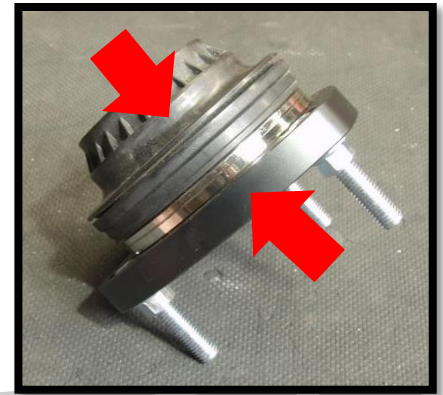

Figure 3a
- a) Place the strut bearing onto the CorkSport Camber plate making sure it is fully seated (as shown in **Figure 3a**).
- a) Place the strut bearing onto the CorkSport camber plate. Push the bearing onto the camber plate making sure it is fully seated (as shown in Figure 3a).